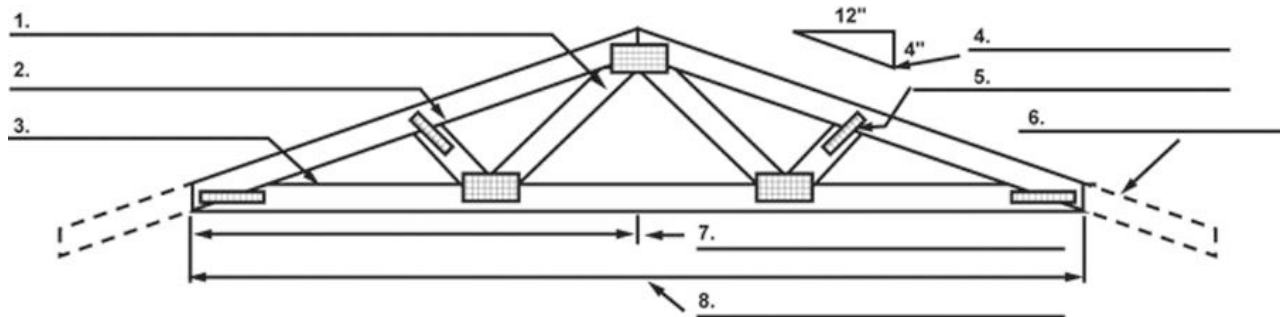

Figure 2-31. Truss diagram.
1. Label items 1 through 8 in figure 2-31 with the letters of these terms: